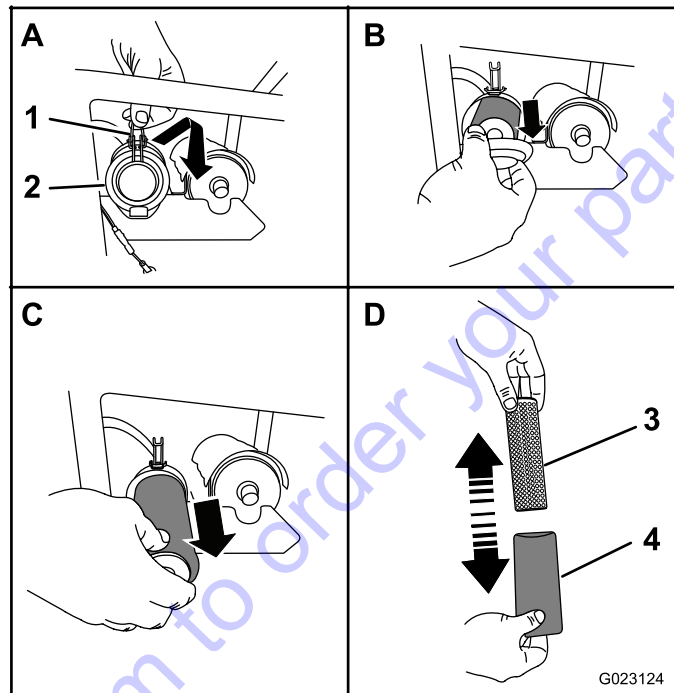

Figure 16
2. Remove the air filter from the housing as shown in Figure 16.
1. Open the latch of the air-filter cover (Figure 16).